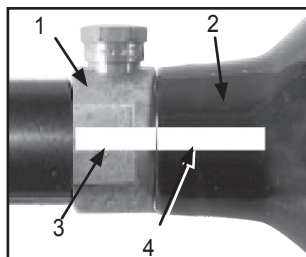

Figure 4: Properly marked Valve and Cylinder
Refer to Figure 4. There have been reported incidents caused by players unknowingly unscrewing the cylinder (2) from the cylinder valve (1). This occurs when the player thinks the entire valve-cylinder assembly is being unscrewed from the air supply adaptor of the paintball marker, when in fact they are unscrewing the cylinder from the cylinder valve.